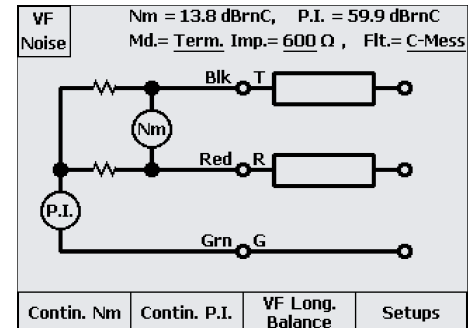

Figure 1 VF Noise Result
This radiated energy from power transmission lines is called "power influence" and can be measured by the CopperPro using the VF Noise test in the POTS Toolbox (Figure 1).
This is known as metallic noise, and is measured along with power influence by the CopperPro in the VF Noise test (Figure 1). Figure 1 shows the results of a voice frequency noise test on a pair. Set-up information and results are displayed at the top of the screen. In the example, the pair has passed because metallic noise (Nm) and Power Influence (PI) are less than CopperPro's default limits; Nm is less than 30 dBrnC and PI is less than 80 dBrnC. Had the test failed either Nm or PI, the failure would be highlighted by blinking reverse video.